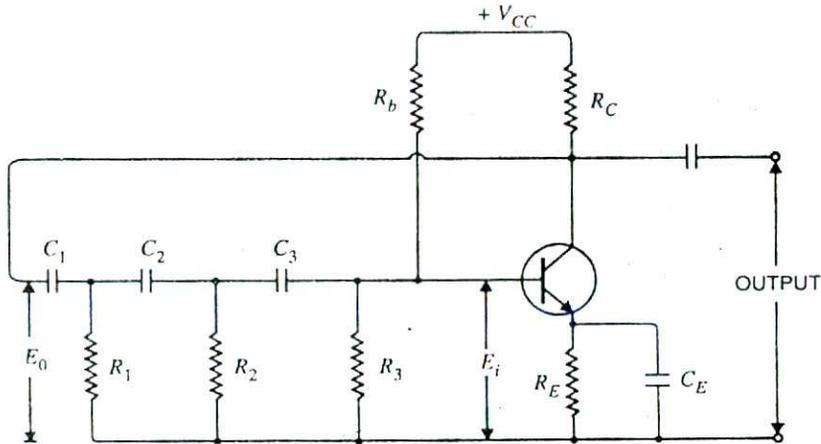

Fig. 16.17
Fig. 16.17 shows the circuit of a phase shift oscillator. It consists of a conventional single transistor amplifier and a  $RC$  phase shift network. The phase shift network consists of three sections  $R_1C_1$ ,  $R_2C_2$  and  $R_3C_3$ . At some particular frequency  $f_0$ , the phase shift in each  $RC$  section is  $60^\circ$  so that the total phase-shift produced by the  $RC$  network is  $180^\circ$ . The frequency of oscillations is given by ;
**Example 16.4.** In the phase shift oscillator shown in Fig. 16.17,  $R_1 = R_2 = R_3 = 1M\Omega$  and  $C_1 = C_2 = C_3 = 68\text{ pF}$ . At what frequency does the circuit oscillate ?